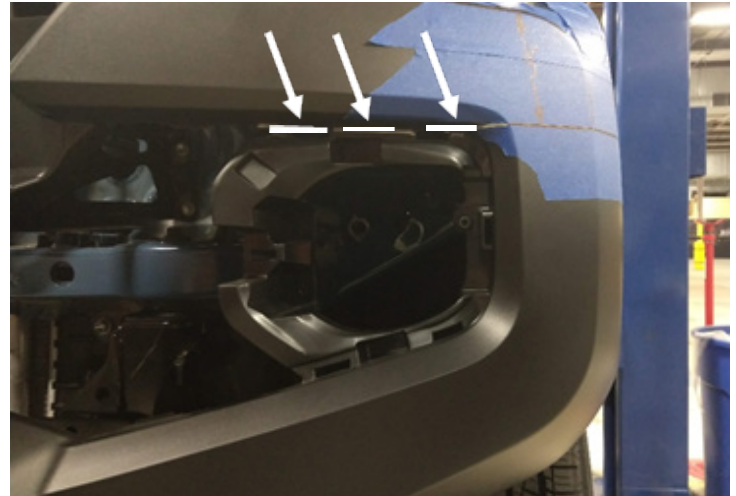

Figure 19
21. Using a silver sharpie, mark the bumper cover above the fog light pocket. (Figure 19)